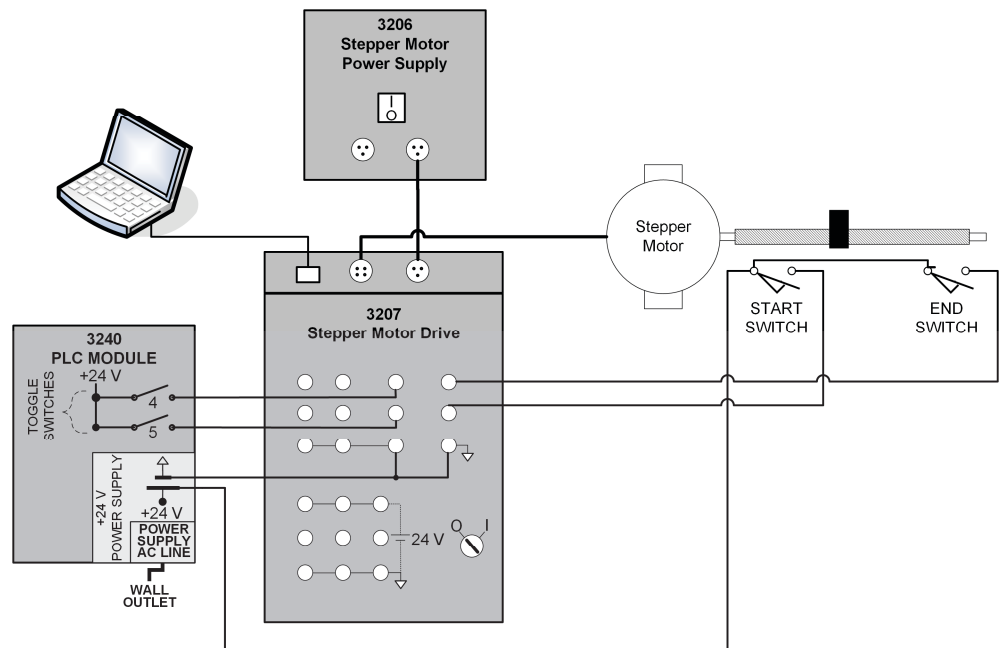

Figure 9. Stepper Motor Drive test circuit.
1. Connect the Electromechanical – Stepper Motor System according to Figure 9. All toggle switches must be turned off (down position). The sliding block must stand at an intermediate position.